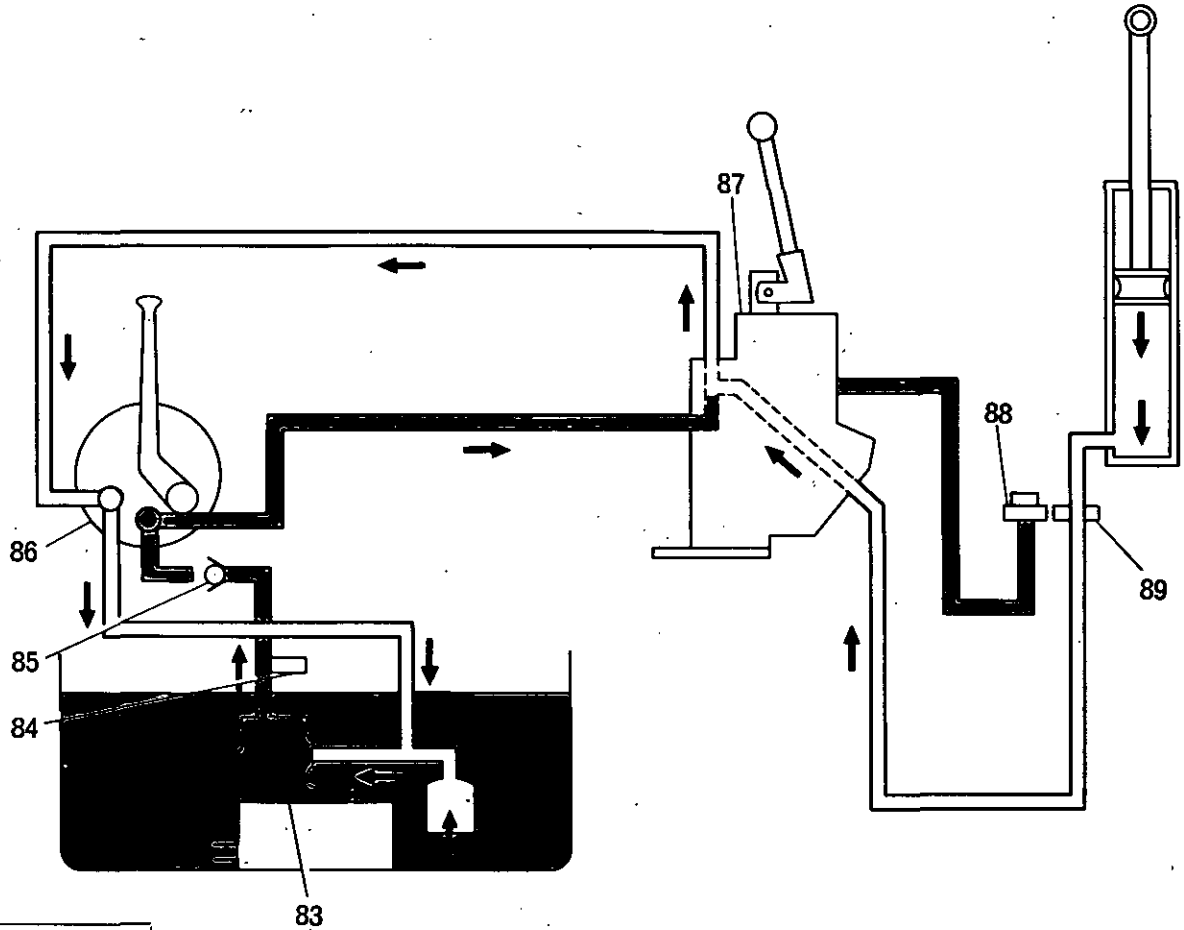

FIG. 20A
**Lowering (Lever Forward)** Fig. 20A and 20B